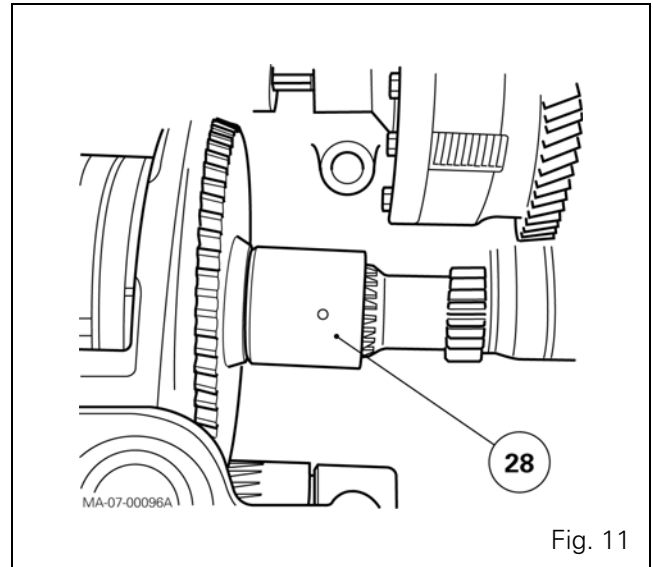

Fig. 11
101. Refit the fork, the sleeve assembly, the link shaft and the coupler. Fit the sleeve (28) with the long offset between the pin and the 4WD pinion turned as shown in Fig. 11. Replace the pins. Adjust the fork (see chapter 5).
Note: Fit the sleeve (28) with the long offset between the pin and the 4WD pinion turned as shown in Fig. 11. The long double pin is fitted on the sleeve (27).